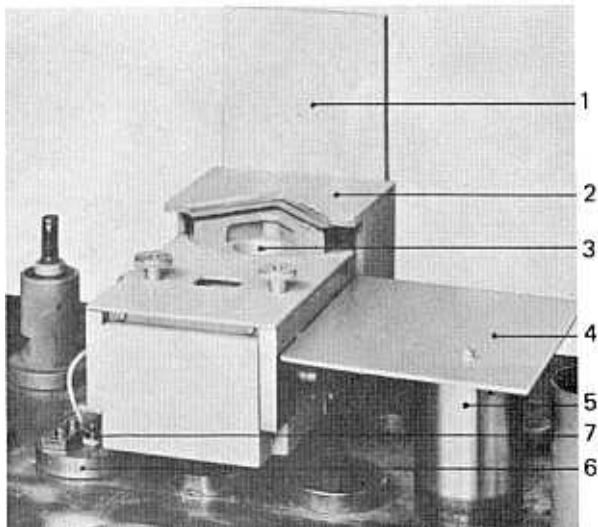

Fig. 3 Source complete with 4-way crucible
- l. Optically, the high voltage supply lines must be adequately screened from the high voltage feedthrough up to the source. The pertinent screening plate (fig. 3, item 4.), included in the source, must be cut accurately after installation to avoid frequent arcing during evaporation.
- m. If enough space is available, the deflection plate (fig. 3, item 1) may be bent backwards by 90° to crucible level. In this way, the cleaning periods can be extended considerably if larger batches of material are evaporated (pot crucible).
The high current feedthrough (fig. 3, item 6) acts as a current supply for the upper section of the anode (X-sweep). The feedthrough must therefore be electrically insulated from the coating unit base plate by means of two insulating plates, items 118 and 119 of the spare parts list BB 800 041 E/6 and an insulating tube. If the underside of the coating unit base plate is covered with an insulating protective film (anodized or brushed on), a ground line must be connected from the gun feedthrough to the fixed angle of the high current transformer. The connection from the feedthrough to the anode is made with the installation material furnished in accordance
with the lay-out of the gun and high current feedthrough. The coil current feedthrough is mounted in the high current feedthrough (Fig. 3, Item 6).
Inner conductor to the centre tapping (secondary) of the filament current transformer T1 (screw M5); outer conductor (sheathing) to the earth screw (Fig. 3, item 3 of the operating instructions BB 800 062 BE).